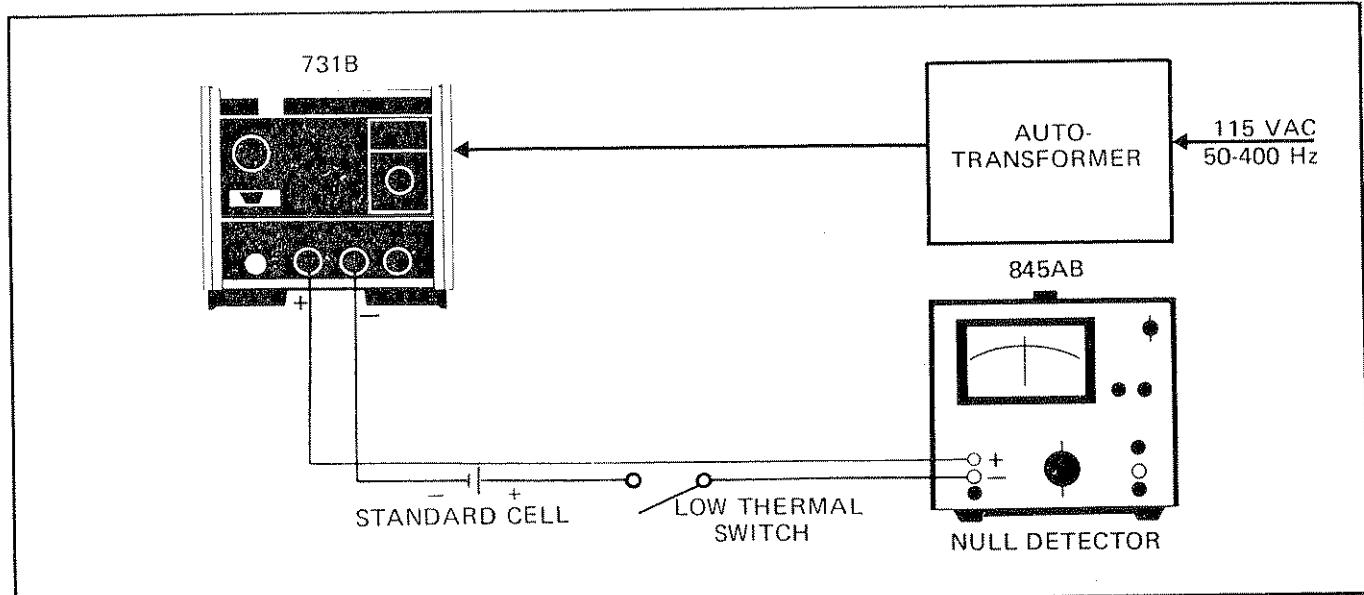

Figure 4-2. EQUIPMENT CONNECTIONS FOR LINE REGULATION, DC TO 1Hz OUTPUT NOISE, AND TRANSFER ACCURACY TESTS.
- a. Connect equipment as shown in Figure 4-2.
- Connect equipment as shown in Figure 4-2.